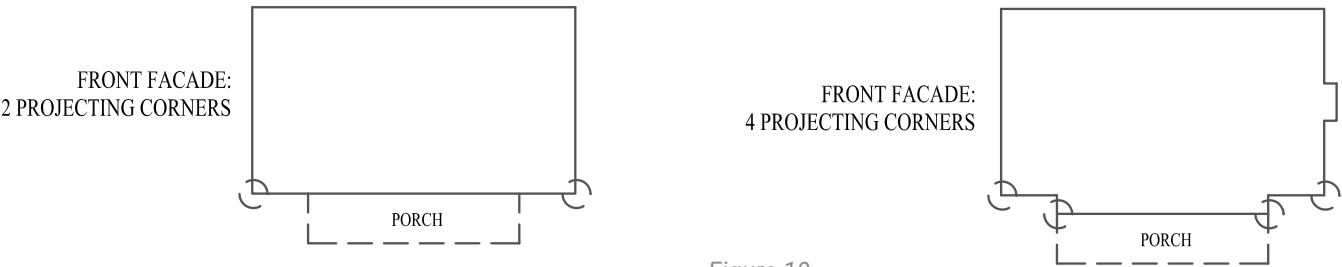

Figure 19
- » Eaves shall have no more than six outside corners. See Figure 19.